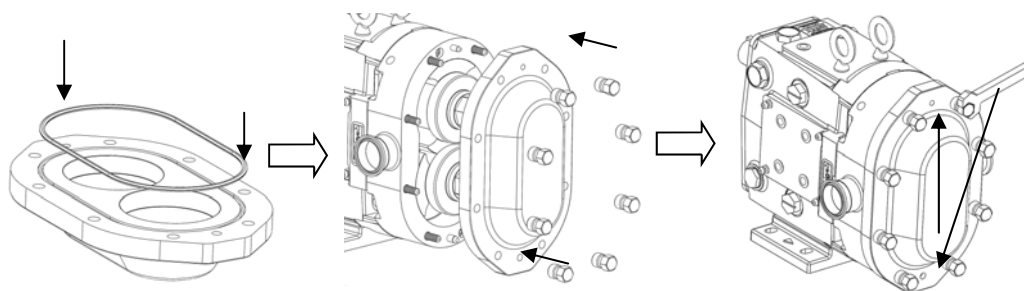

Figure 42: Cover Assembly
3) Install the new cover o-ring and slide the cover over the studs making sure that the dowels in the body are aligned with the correct dowel holes in the cover (Figure 42). Visually inspect to ensure that the cover o-ring remained in place. Turn the cover nuts (clockwise) by hand and fully tighten them using the appropriate wrench. Tighten the cover nuts in an opposing manner as seen on Figure 42, so that the cover is evenly tightened to the body.